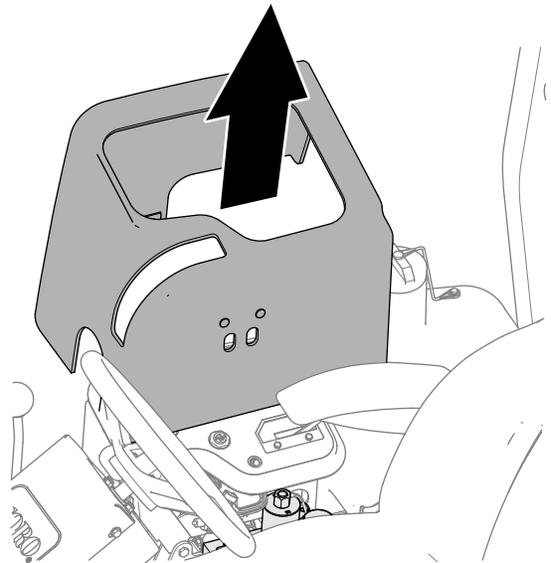

Figure 89
3. Lift the magnetically mounted console cover (Figure 89) to expose the mower manifold.